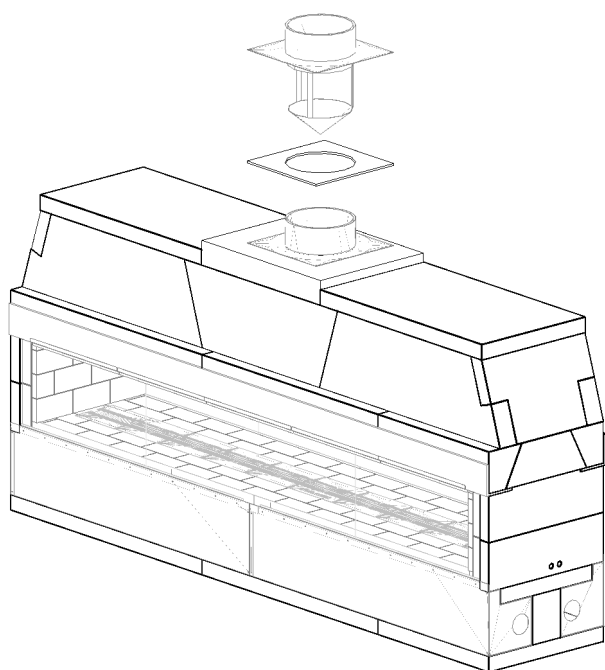

FIGURE 28
- 2) Center the Isowool blanket over Isokern Top Plate’s outlet and trace the outlet’s outline with a pen or marker. Cut a hole in the blanket along this outline to match the hole in the Isokern top plate. Center the cut Isowool blanket over the Isokern Top Plate flue opening, then center Anchor Plate over the Isowool blanket (**Figure 28**).
- 3) Secure the Anchor Plate with four (4) masonry anchors.